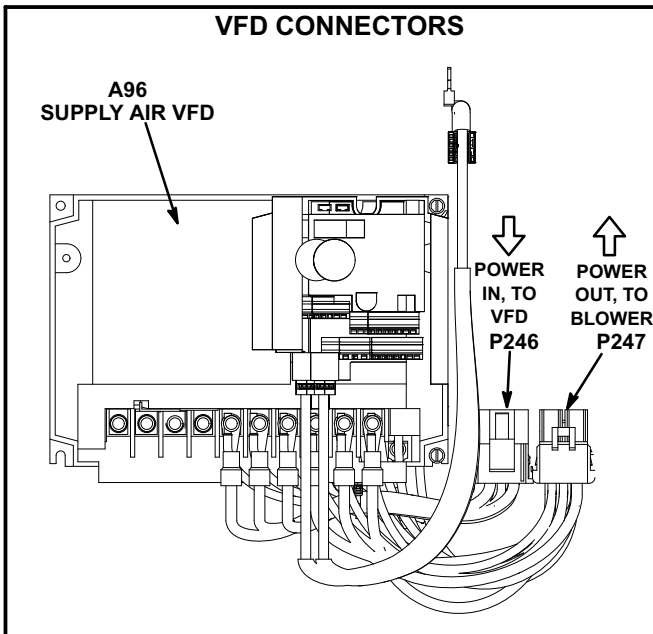

FIGURE 27
9. Locate P246 and P247 connectors near the VFD. See figure 27.